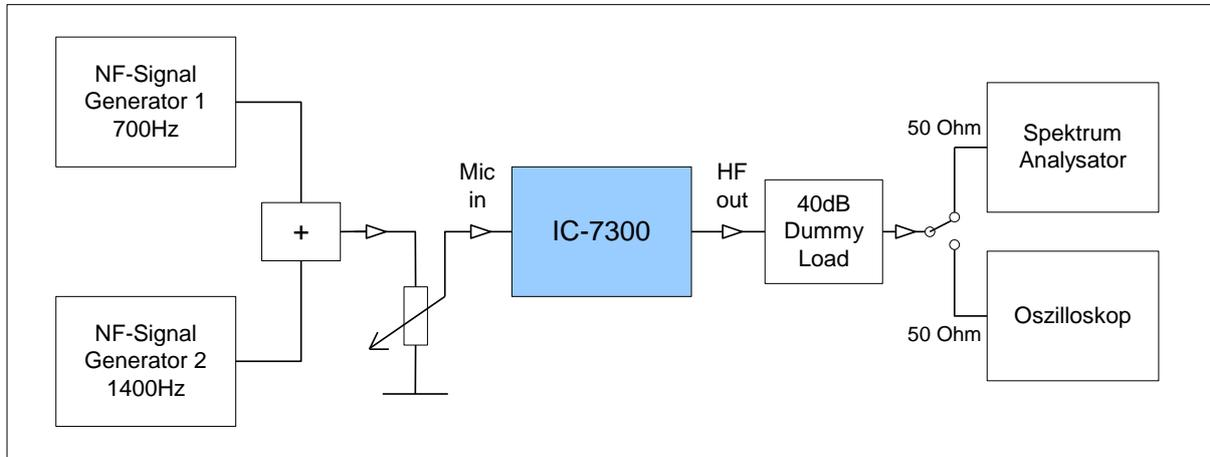
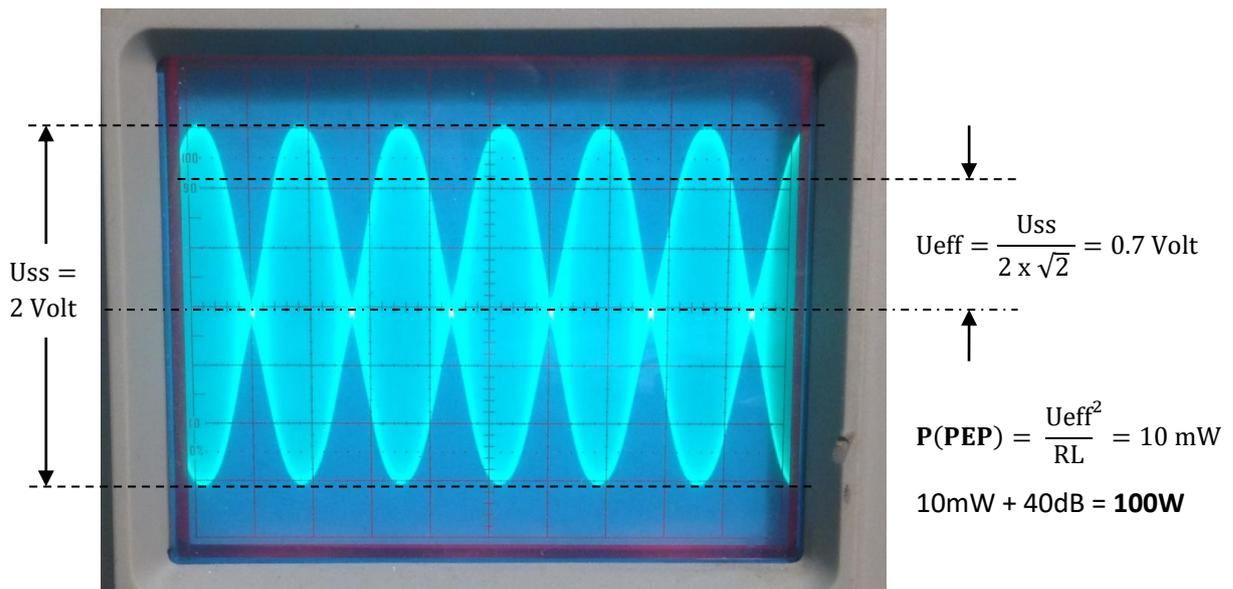

Figure 13: Measurement setup for transmitter intermodulation
Figure 14: HF 2-tone signal with 100 Watt PEP on the scope in the time domain, at 14.1 MHz
To measure the intermodulation of the MOSFET power amplifier, we connect the microphone input to an AF 2-tone generator ($f_1 = 700\text{Hz}$, $f_2 = 1500\text{Hz}$) and adjust the microphone input voltage so that the transmitter reaches a PEP output power of 100W (Fig 13) (5). Since the transmitter is now driven by two closely spaced sinusoidal signals of equal amplitude, beat-frequency effects occur, with the signals adding or canceling (Fig. 14). Therefore the average power of the transmitter does not reach 100W but only $2 \times 25\text{W} = 50\text{W}$ and the levels of the two RF signals are 6dB below the maximum